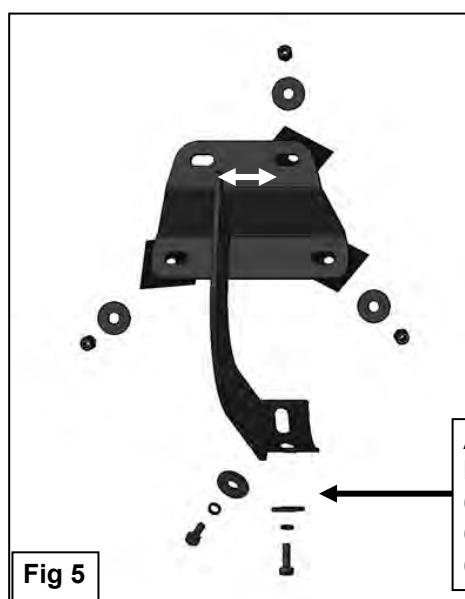

Fig 5
4. Repeat **Steps 1—3** to install the (2) remaining center and rear passenger side Brackets.
5. Select the passenger/right Sidebar. Carefully position the Sidebar onto the (3) Mounting Brackets. **IMPORTANT:** Do not slide, (front to back or rotate), the Sidebar on the Brackets or damage to the finish on the Sidebar may result. Attach the Sidebar to the Mounting Brackets with (6) 8mm x 25mm Hex Bolts, (6) 8mm Lock Washers and (6) 8mm Flat Washers, (**Figure 5**). Do not tighten hardware.